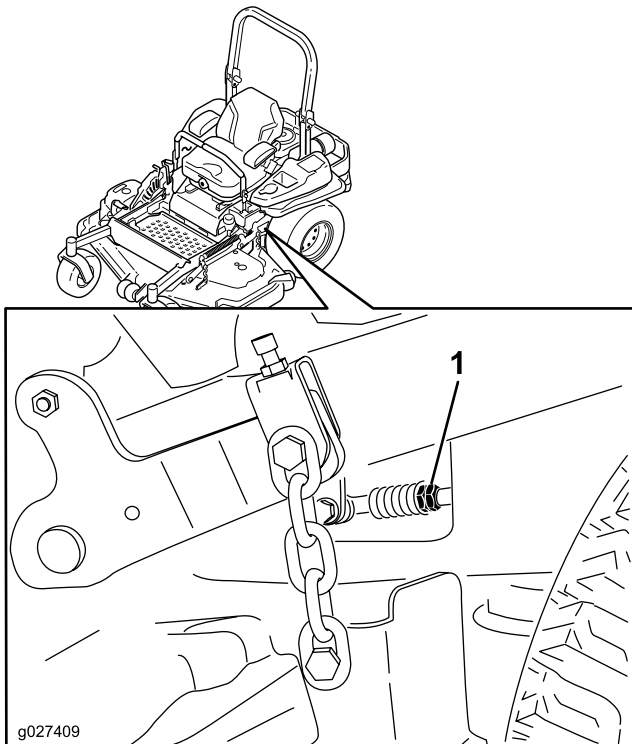

Figure 86
10. Adjust the pump-control-rod lengths by rotating the double nuts on the rod in the appropriate direction until the wheels slightly creep in reverse (Figure 86).